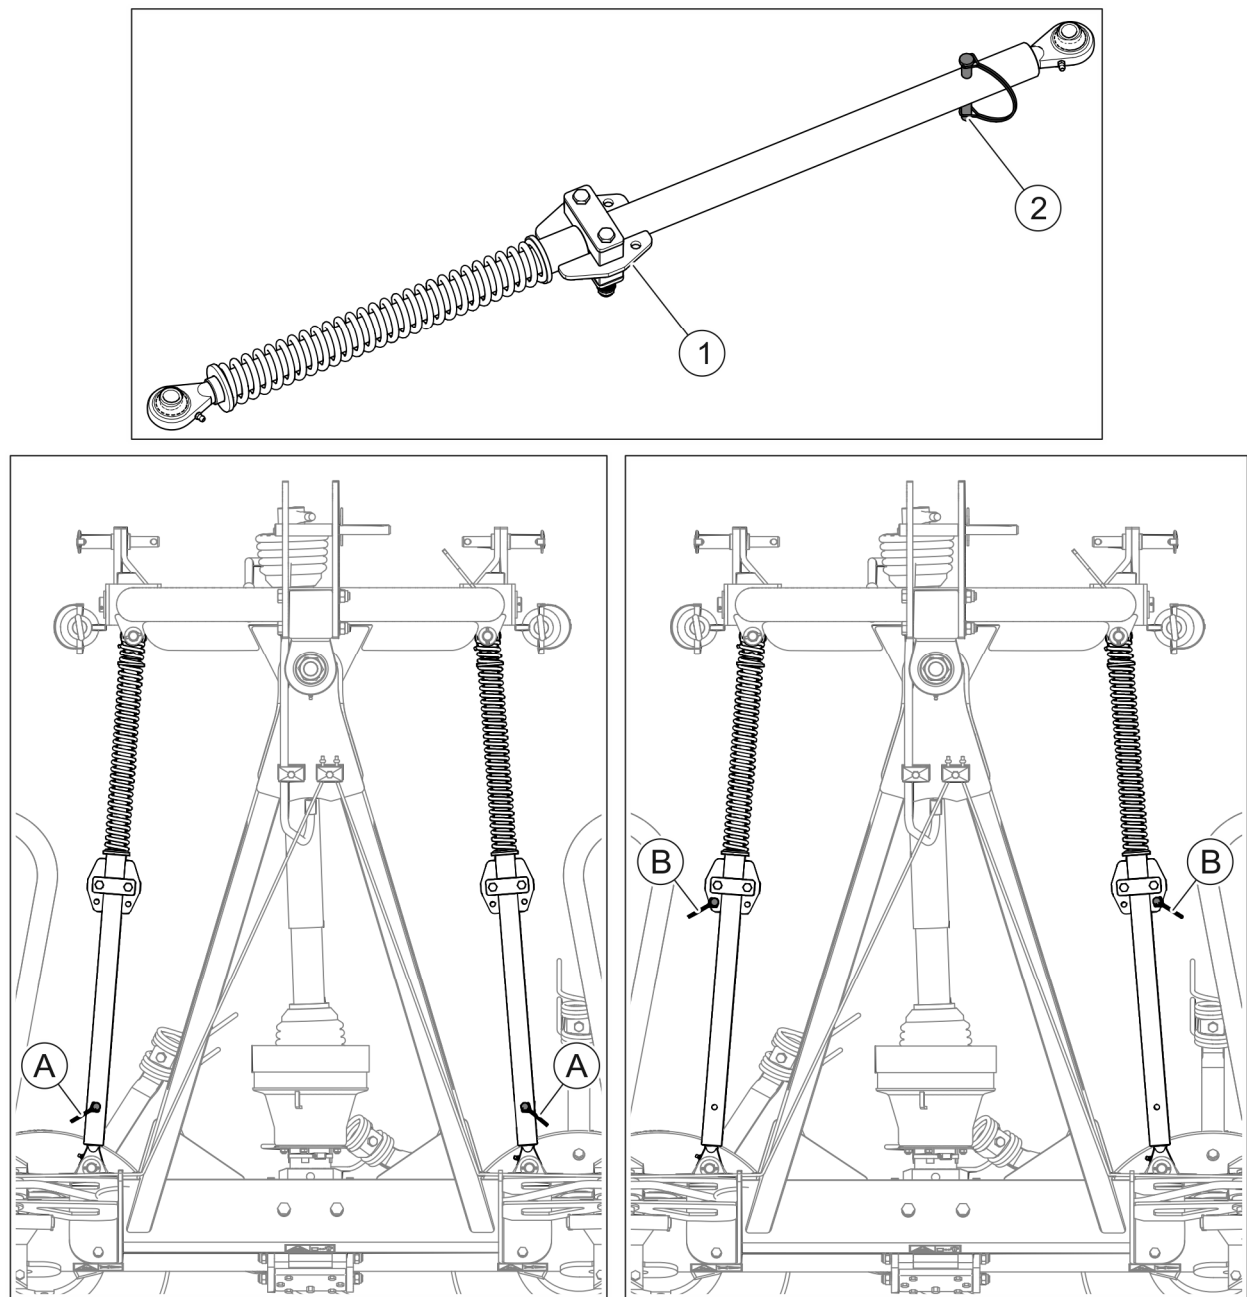

FIGURE 4.7 Move the vibration damper to the working position.
(1) tilt cylinder valves, (2) mechanical lock of the cylinders, (A) OPEN position, (B) CLOSED position.
- Lift the right and left tedder rotary modules until the cylinder position is locked with the mechanical cylinder interlock (2).
- Set the valves (1) of the tedder arm tilt cylinders to the "CLOSED" position.
- Set the tedder vibration dampers in the locked position (FIGURE 4.7).
(1) vibration damper; (2) split pin; (A) the vibration damper in the locked position, (B) the vibration damper in the unlocked position
- Unlock the right and left tedder vibration damper by removing the locking pins (2) (FIGURE 4.7).